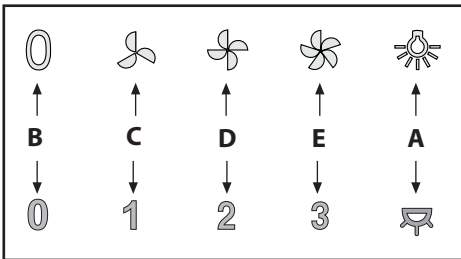

Fig.9
• **Commands (Fig.9) mechanical** the key symbols are explained below: